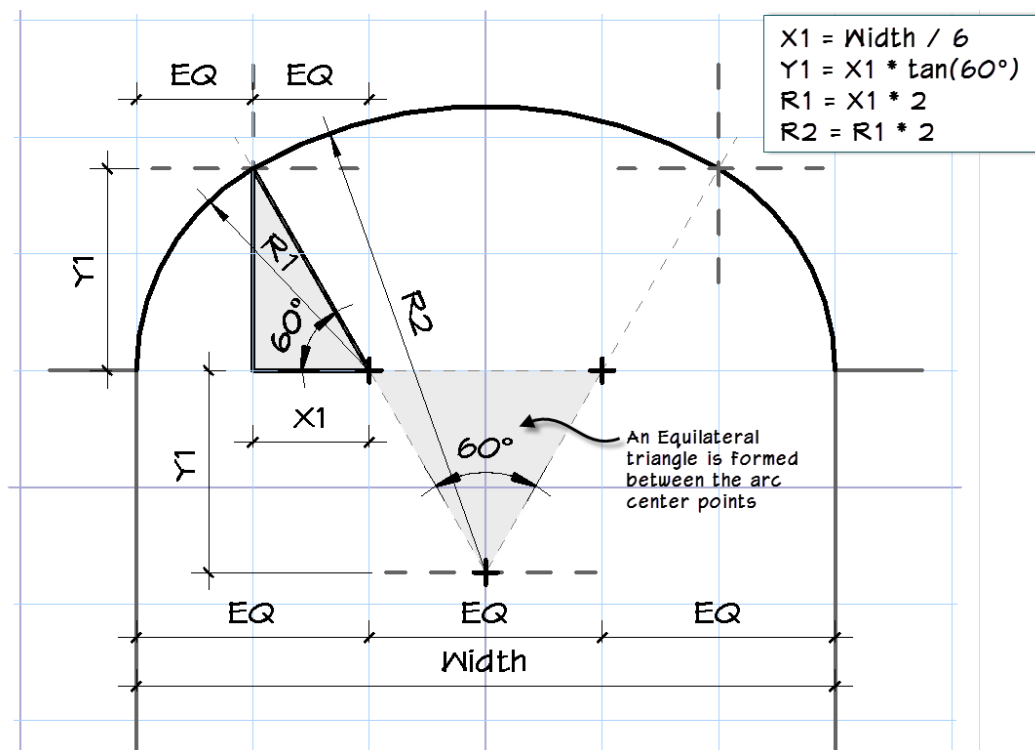

Figure 48—Construction of a Three-Center Arch
Let's start with the three center arch. A diagram of the shape is shown in Figure 48. The geometry is pretty simple. The two arcs on the left and right are 60° arc with centers along the spring line. The middle arc is similar to our segmental arch above. We could use either rigs or formulas to construct this one. We'll go with a formula since the angles are fixed at 60° which makes the formula very simple.
7. Using Figure 48 above as a guide, on the Create tab, click the Line tool and then the Center-Ends Arc icon. Draw the three arcs required.